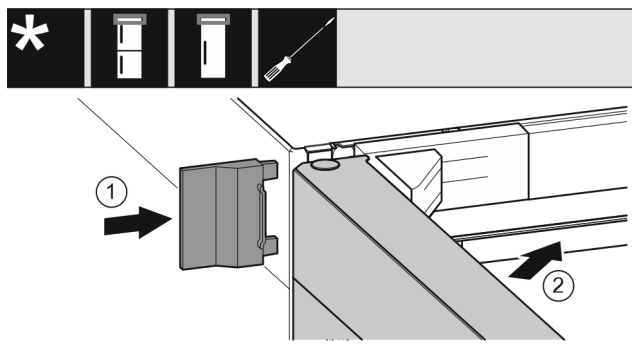

Fig. 66
- Push the outer cover Fig. 66 (1) on.
- Close the upper door Fig. 66 (2).